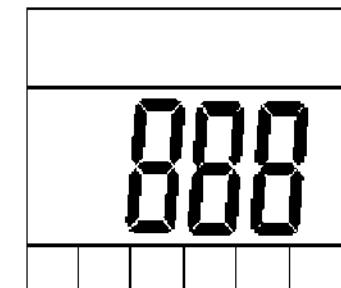

Fig 22
Select "F—07" and press "①" key, you enter mode of alarm record deletion. The detector delete rapidly all the alarm record saved before. The more the record you deleted, the bigger the figure displayed on the screen, as figure 22. The detector returns to the normal condition after deleting all the record.